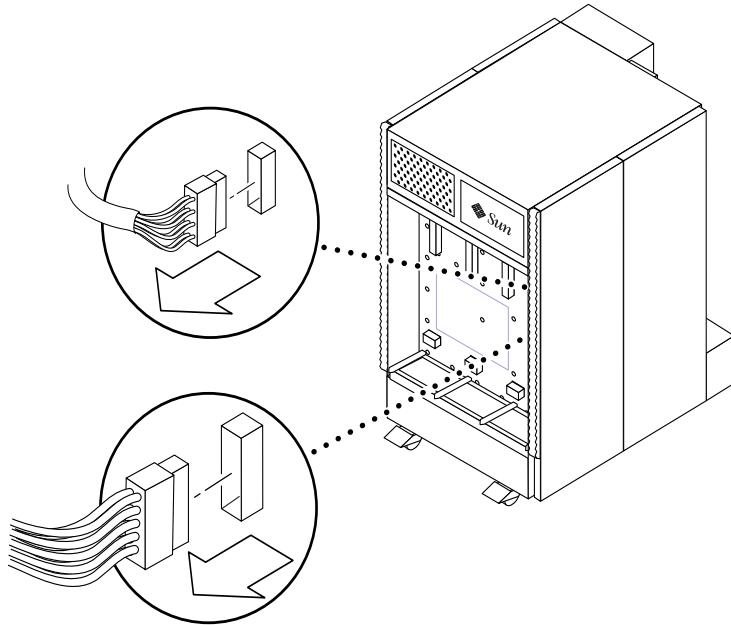

FIGURE 12-22 Disconnecting Cables From the Connectors on the Centerplane—Sun Fire 4800 System
6. Connect the cables to the centerplane (FIGURE 12-22).